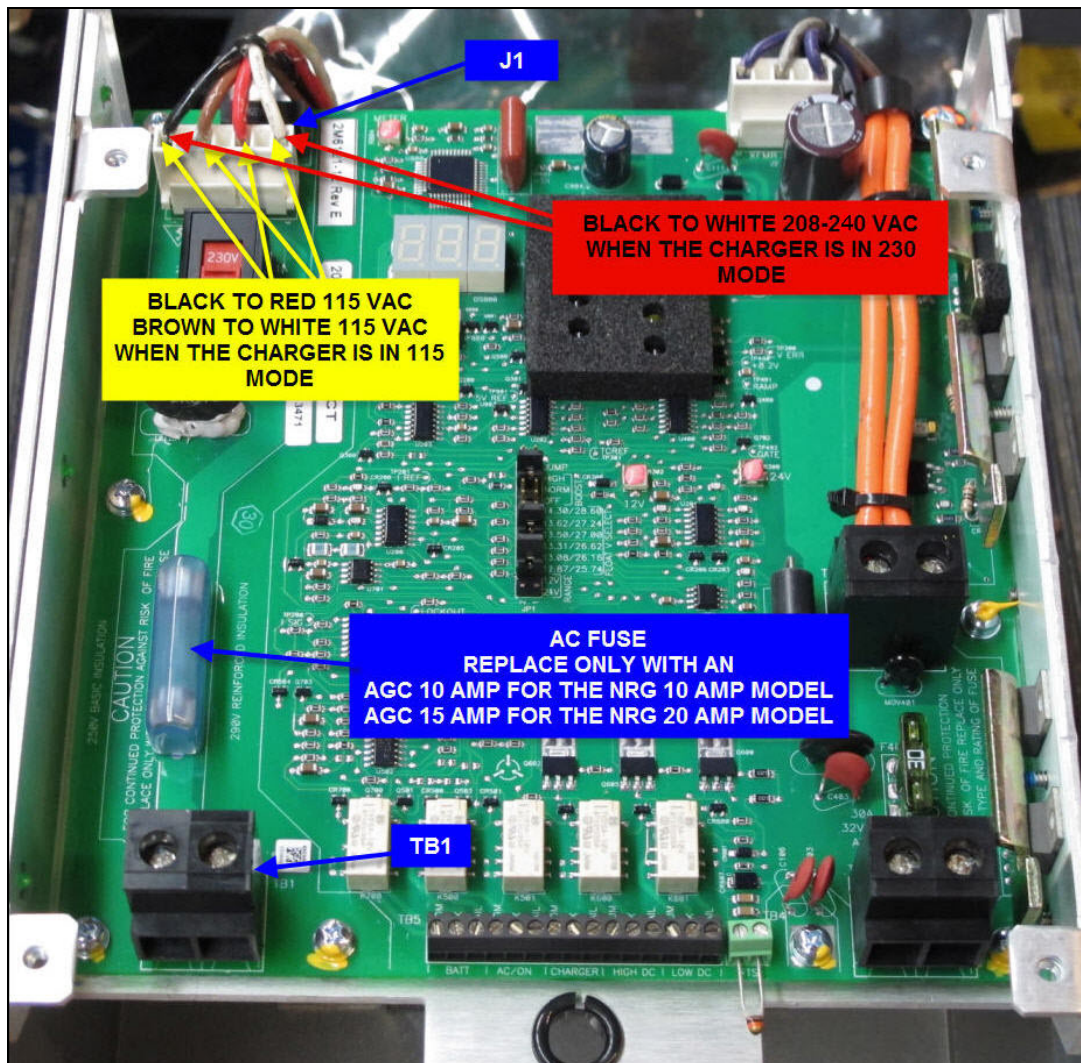

Figure 2
2. AC Fail Possible Cause 2: Open AC fuse (see Figure 2)
3. AC Fail Possible Cause 3: Circuit board damage (see Figure 2)